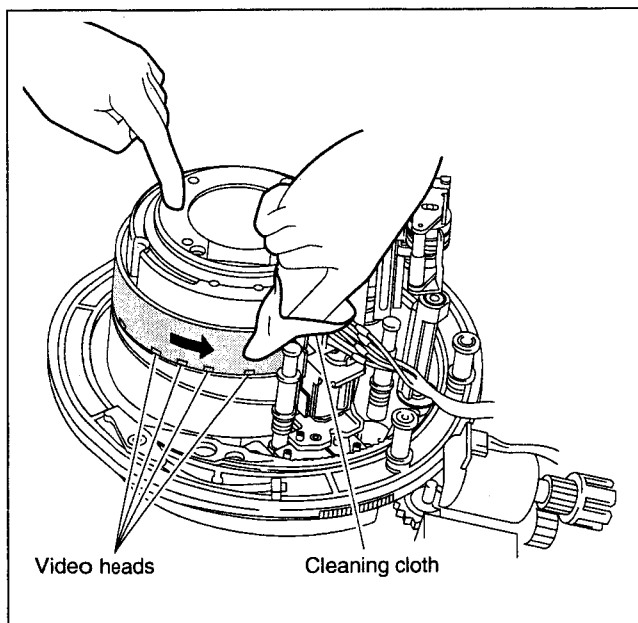

Figure 1. Cleaning of Drum
4. Clean the outer circumference and video heads of the upper drum (shaded portions in Figure 1).